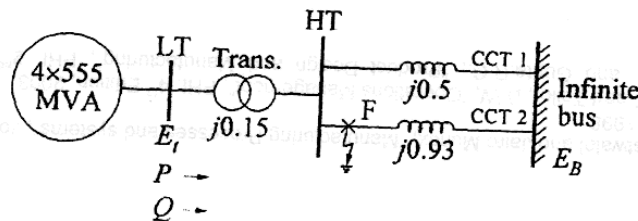

Fig.7
15. (a) The single line diagram of a system is shown in figure 7. There are four identical generators of rating 555 MVA, 24 kV, 60 Hz supplying power infinite bus bar through two transmission circuits. The reactances shown in figure are in per unit on 2220 MVA, 24 kV base (refer to the low voltage side of the transformer). Resistances are assumed to be negligible. The initial operating conditions, with quantities expressed in per unit on 2220 MVA, 24 kV base, is as follows